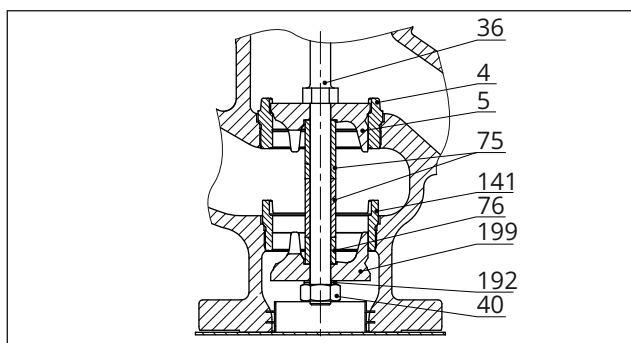

Fig. 27: Valve in DN 65/NPS 2½ and larger · Diverting valve
14. Screw in the bottom seat (141). Observe tightening torques.
15. Use a suitable tool to catch the bottom plug (199) and the spacers (75, 76).
16. Screw in the top seat (4). Observe tightening torques.
17. Place the top plug (5) into the top seat (4).
18. Carefully guide the plug stem (36) from above through the top plug (5), spacers (75, 76) and bottom plug (199).
19. Apply a suitable lubricant to the hex nut (40) and the threaded end of the plug stem (36).
20. Slide the retaining washer (192) from below on to the plug stem (36).
21. Thread and tighten the hex nut (40) onto the plug stem (36). Observe tightening torques.
22. Apply a suitable lubricant to all packing parts and the plug stem (36).
23. Carefully place the valve bonnet (2) over the plug stem (36) and the studs (13) onto the body (1). Make sure that the gasket (17) is properly seated in the body.
24. Carefully slide the packing parts over the plug stem into the packing chamber using a suitable tool. Observe the proper sequence (see Fig. 27).
25. Fasten the valve bonnet (2) with body nuts (14). Tighten the body nuts gradually in a crisscross pattern. Observe tightening torques.
26. Apply a suitable lubricant to the thread of the threaded bushing (8). Screw in the threaded bushing and tighten it. Observe tightening torques.